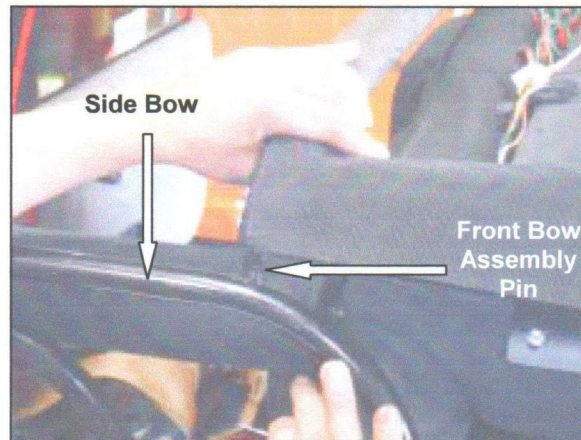

Figure 13
13. Take Front Bow towards the front of the vehicle. There is a Pin on each side on the Front Bow. Insert these Pins through the holes on the Side Bow and secure them with Billet Disconnect Pins provided (Figure 13).